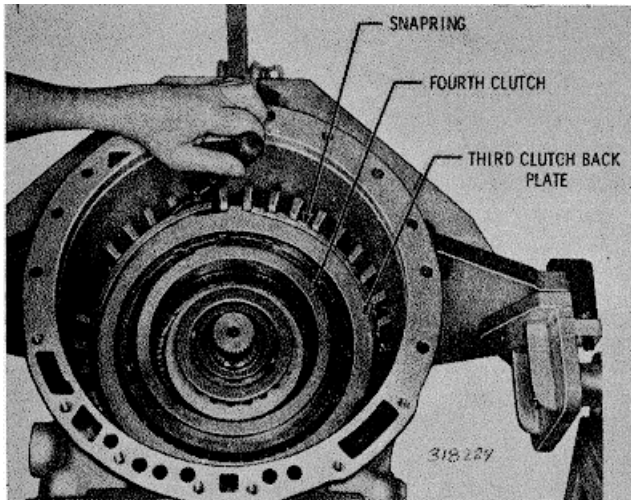

Fig. 7.33. Installing third clutch snapping
(6) Install the third-clutch snapping (fig. 7-33). Be sure the gap of the snapping is at the top of the transmission housing.
(7) Check the third clutch running clearance by inserting gage 43 (fig. 4-3) between the snapping and the back plate of the third clutch (fig. 7-33). The clearance should be 0.060 to 0.120-inch (1.52 to 3.05 mm). Any dimension between 0.060 to 0.120 inch is satisfactory. However, the closer the clearance is to 0.060 inch, the longer the interval between clutch plate replacements will be. Replace worn plates with new plates to establish the desired clearance. If the assembly is satisfactory, continue assembly with b, below. Clearance must not be less than 0.060 inch.
(8) If the clearance is not satisfactory, remove the fourth clutch assembly and replace plates in the third clutch as required to obtain a satisfactory clearance. Refer to paragraph 7-2. Reinstall the fourth clutch assembly and reassemble the third clutch when the clearance is satisfactory.